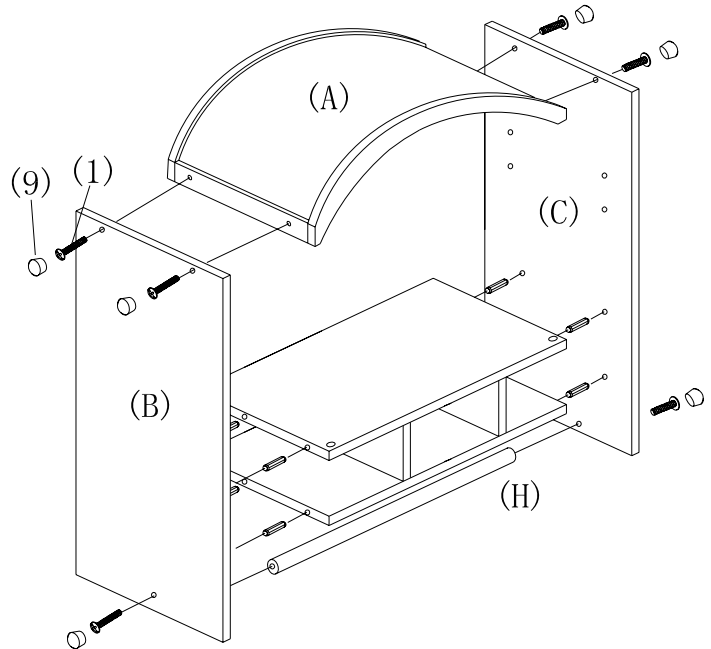

FIGURE 2
SIDE PANEL (B) AND TIGHTEN INTO CORRESPONDING HOLES ON ENDS OF TOP PANEL (A) AND WOOD TOWEL BAR (H). PUSH PLASTIC PLUGS (9) INTO THE BIG HOLES ON OUTSIDE OF LEFT SIDE PANEL (B). ASSEMBLE RIGHT SIDE PANEL (C) IN SAME MANNER. (AS SHOWN FIGURE 2)